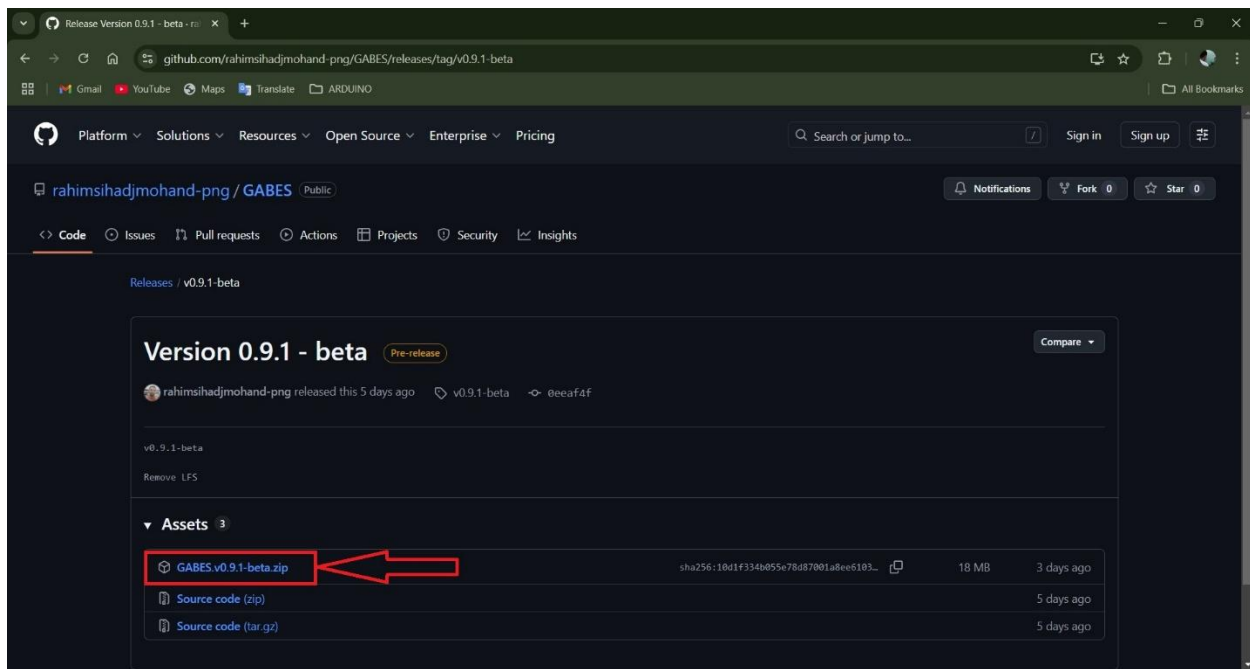

Figure 3: Latest release download
4. Download the release package by selecting the first **.zip** file, **GABES v0.9.1-beta.zip** (see Figure 3). This package contains the **GABES.exe** executable along with all required dependency (**.dll**) files necessary for proper execution.
In the **post-processing phase** (see Figure 3), it displays: